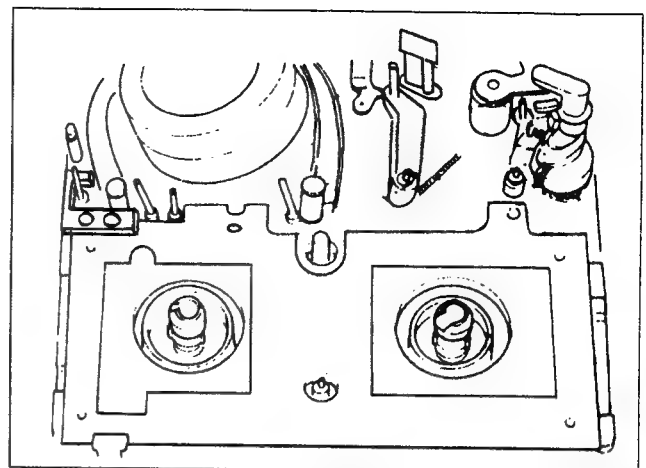

Figure M38-B
8. Place the Tension Post Position Adjustment Plate with the Fixture over the reel tables as shown in Figure M38-B.